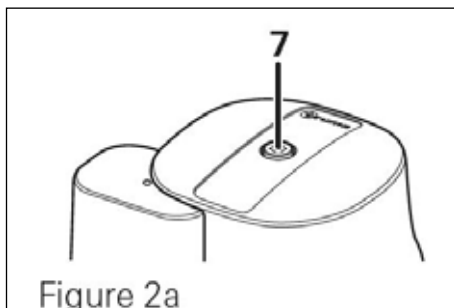
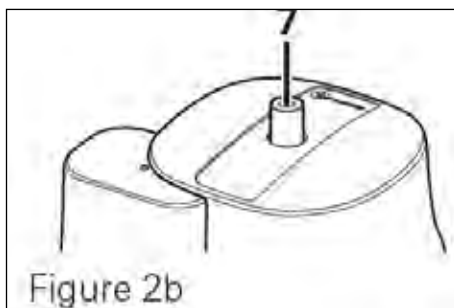

Figure 2a
Figure 2b
The crash sensor has a reset button, the position of which indicates its status: "Ready for operation" position (Figure 2a) or "not ready for operation" position (Figure 2b).
To reset, press the yellow reset button (7) firmly, turn it slightly clockwise, hold it for 5 seconds and ensure that it stays in the "ready for operation" position (Figure 2a). If the reset is not successful, use the Torx T20 (12) on the screw aid (11) to support the clockwise rotation.